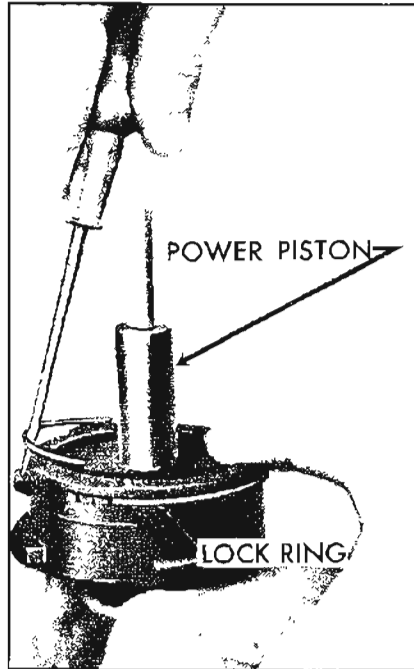

Figure 9-52—Instolling Power Piston Lock Ring
26. There is a lug on the power piston which has a raised divider in the center. One end of the lock ring goes under the lug and on one side of the divider. See Figure 9-52.